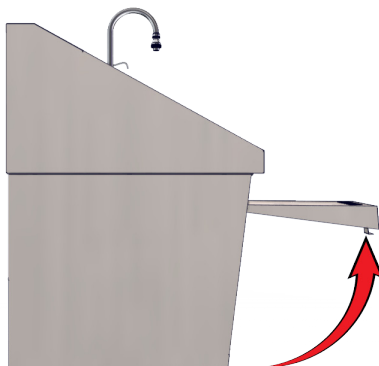

Fig. 25: Door in fully opened position
2. Swing the door fully open to access the hinges (Fig. 25).